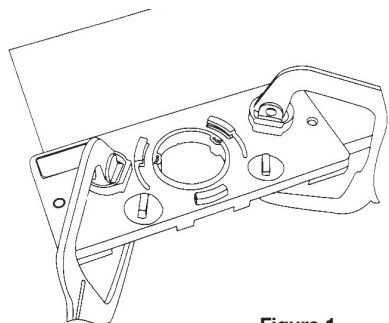
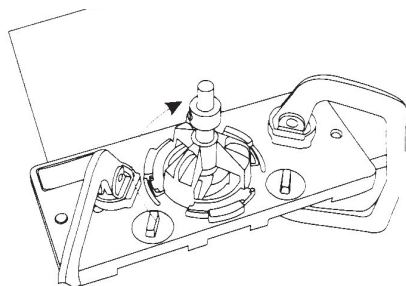
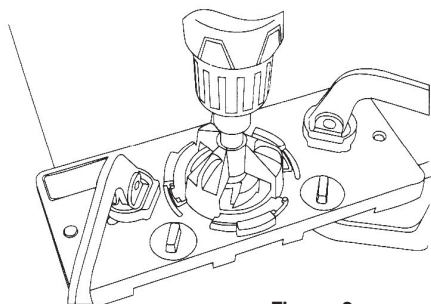

Figure 1
Figure 2
Figure 3
2. Fixing and drilling of the main body: fix the main body on the wood board with a lock wrench (Figure 1), rotate the bracket clockwise until it reaches the end of the clamping slot (Figure 2), and drill a 35mm hole with electric drill (Figure 3).